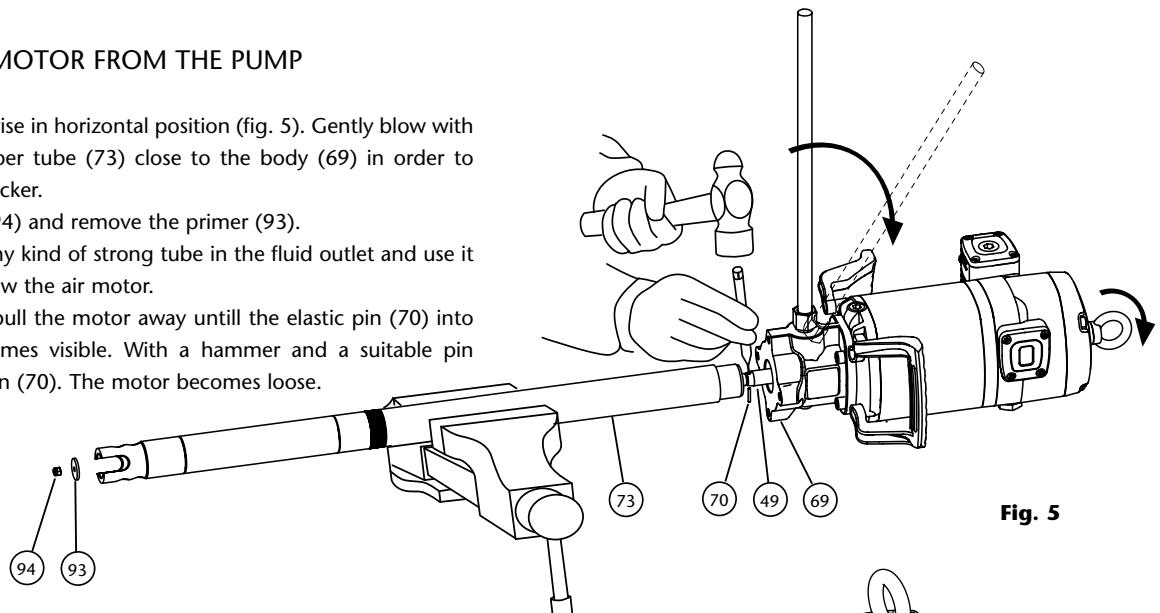

Fig. 5
1. Fix the pump in a vise in horizontal position (fig. 5). Gently blow with a hammer the upper tube (73) close to the body (69) in order to break the thread locker.
2. Unscrew the nut (94) and remove the primer (93).
4. Once unscrewed, pull the motor away until the elastic pin (70) into the rod (49) becomes visible. With a hammer and a suitable pin punch, eject the pin (70). The motor becomes loose.